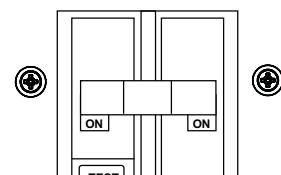

Figure 26. Main Circuit Breaker (ON)
11. Place main circuit breaker (S/N 5681188 and below) in the **ON** position (Figure 26)